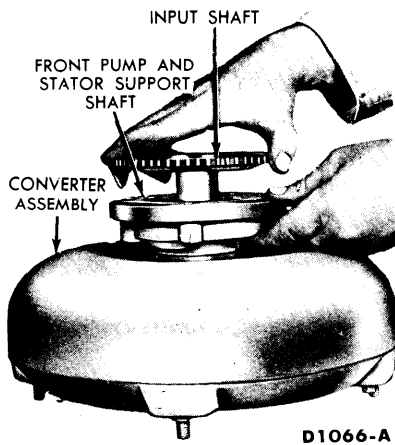

FIG. 15—Stator To Turbine Interference Check
3. Install the input shaft, engaging the splines with the turbine hub (Fig. 15).